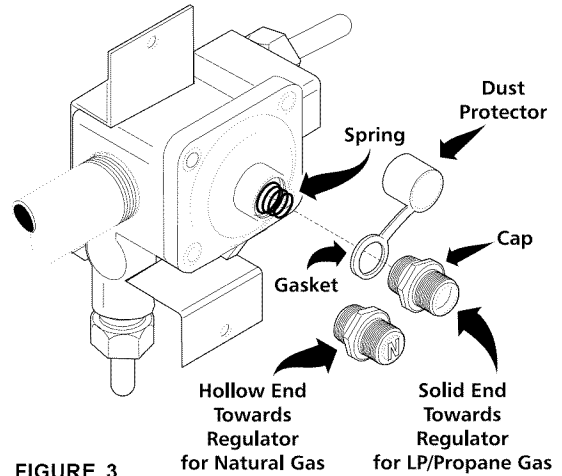

FIGURE 3
- Turn the cap over so the hollow end faces outward. Place the solid end of the cap into the loop end of the dust protector (See Figure 3).